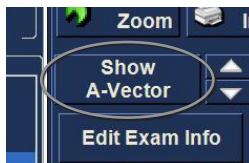

Figure 5.31 - Selecting "Show A-Vector"
1. Select "Show A-Vector" from the Tools tab as shown in Figure 5.31.